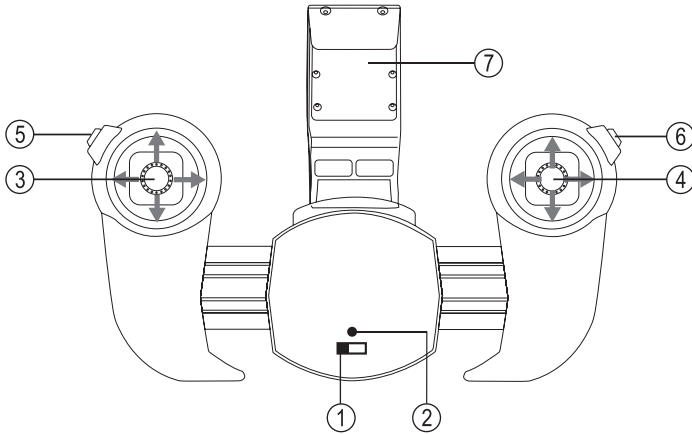

Figure 3
→ Figure 3 shows the Smartphone holder already installed. The two operating elements of the transmitter are already pushed outwards here. This is only necessary if you want to put a Smartphone into the holder.
The battery condition is continually inspected while the transmitter is in operation. If the voltage level of the batteries drops below a certain value, the transmitter will signal this with an intermittent warning sound and permanent flashing of the LED at the transmitter (figure 3, item 2). In this case, stop flying at once and replace the batteries of the transmitter.
If you want to control your quadcopter in mode 1, you need to push the left switch (figure 3, item 5) at the top of the transmitter before operating the model and switch on the transmitter while you keep the button pushed. The setting "Mode 1" is reset to mode 2 after the transmitter is switched off.
Push the throttle lever (figure 3, item 3) forward to increase the motor speed and lift up the quadcopter. Pulling the throttle lever back causes the quadcopter to drop. If you leave the throttle lever in the middle position, the quadcopter will try to maintain the height via the integrated sensors.